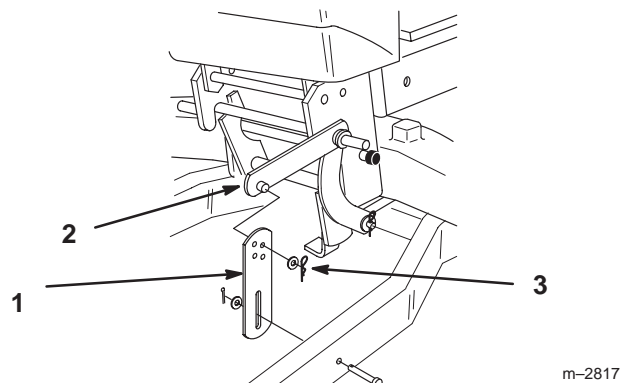

Figure 26
14. Remove hairpin cotter, washer and adjustment link from lift link arm (Fig. 26).